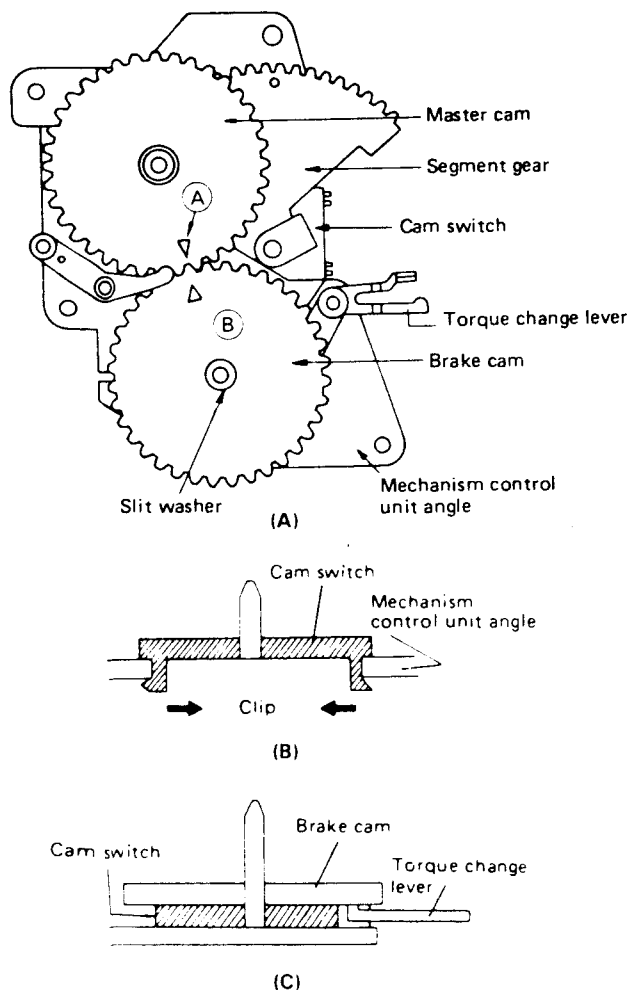

Figure 1-28.
1. Set in place the new upper drum as shown in Fig. 1-28, and arrange the leads to be at their specified positions.